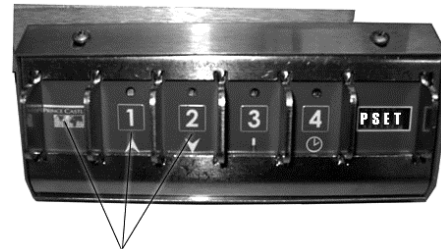

Figure 4
TEMPERATURE MODE: To toggle between Fahrenheit (F) and Celsius (C), at power-on immediately press and release button 3 within 3 seconds. (See **Figure 4**.)